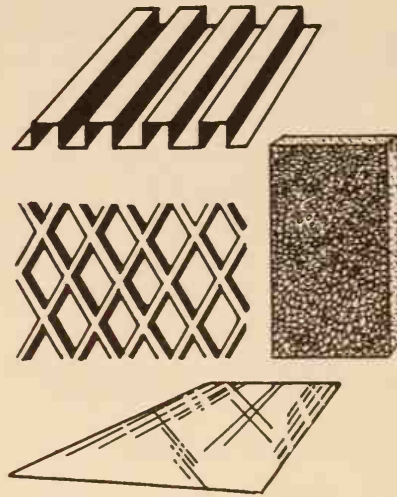

Fig. 2-9. Texture can be added by hammering, perforating, cutting, or forming the metal.
10. Texture. Texture is the condition of the surface of a material. Many metals have texture ranging from a smooth to a very coarse surface. Texture can be added by perforating, cutting, pressing, rolling, or expanding, Fig. 2-9. When applying texture to your design be sure it is appropriate to the article, and to its function.